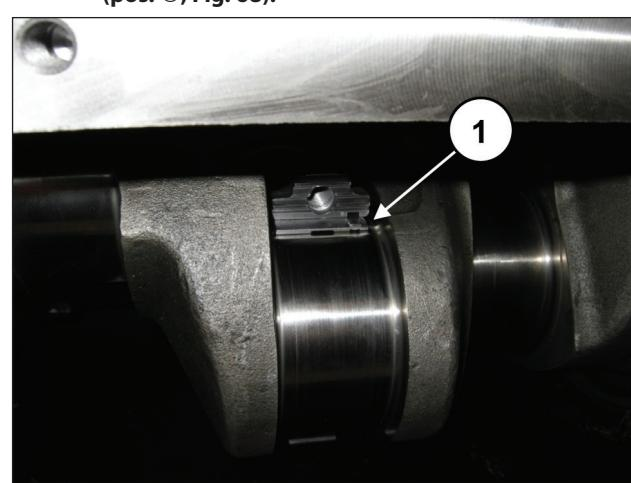

Fig. 67
Insert the upper half-bearings between the conrods and the shaft (pos. ①, Fig. 67).